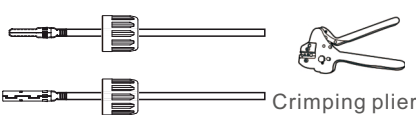

Figure 4.10 Crimp the contact pin to the wire
3. Crimp the contact pin to the wire using a proper wire crimper. (see Figure 4.10)